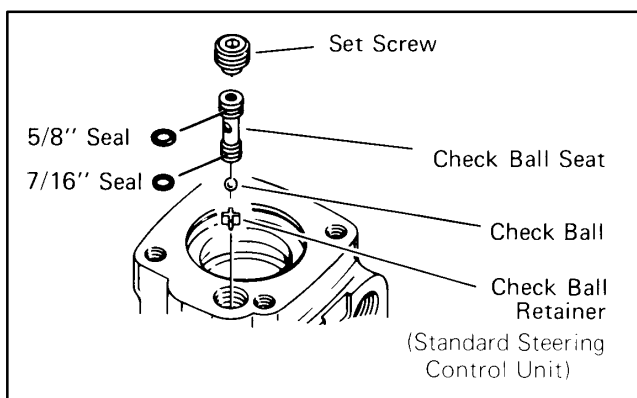

Figure 36
1. Use a needle-nose pliers to lower check ball retainer into check valve hole of housing. Make sure retainer is straight (not tilted on edge) in housing, see Fig. 36.
3. Lubricate 5/8" diameter seal and 7/16" diameter seal. Install seals on check ball seat as shown in Fig. 36.
4. Lubricate check ball seat and seals thoroughly before installing seat in housing. When installing seat, do not twist or damage seals. Install check ball seat in housing, insert open end of seat first, see Fig. 36. Push check ball seat to shoulder of hole.